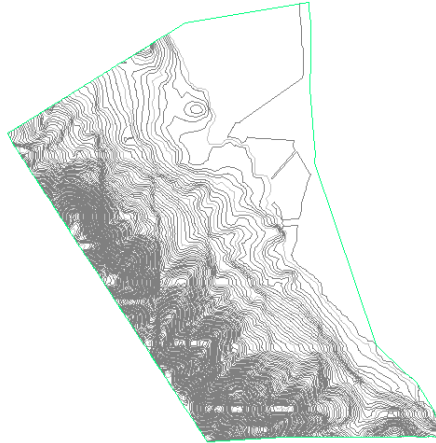

Figure 3-74 Surface created from GIS data
10. Enter **ZE** at the Command prompt and press ENTER to zoom to the extent of the drawing. The surface created from GIS data is displayed, as shown in Figure 3-74.